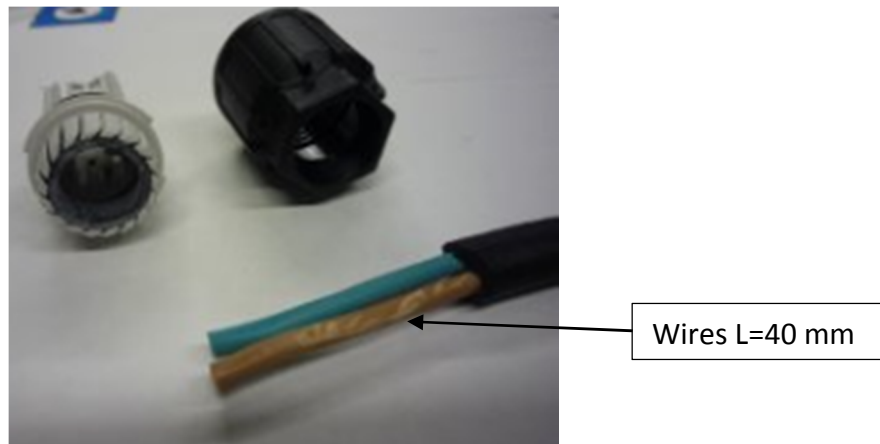

Figure 8: nut and body of the bulkhead connector disassembled
- Unscrew the external nut of the bulkhead connector from the internal body, provided to fasten the wires, and cut the cable sheath for a length of approx. 40 mm (fig. 8)